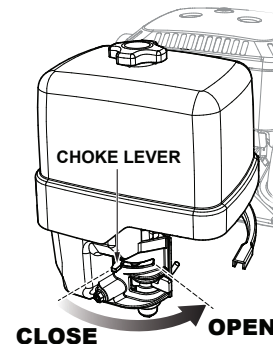

Figure 12. Choke Lever (Open)
3. If starting a warm engine or the temperature is warm, move the choke lever (Figure 12) to the **OPEN** position.